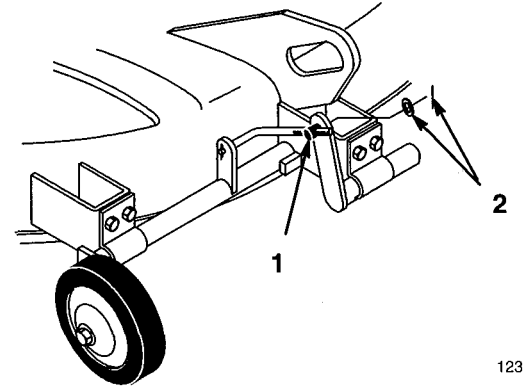

Figure 12
4. Raise attachment lift lever to release pressure on the gage wheels. Remove hairpin cotter and washer from trunnion (Fig. 12).
5. Rotate trunnion to adjust side-to-side level adjustment (Fig. 12).